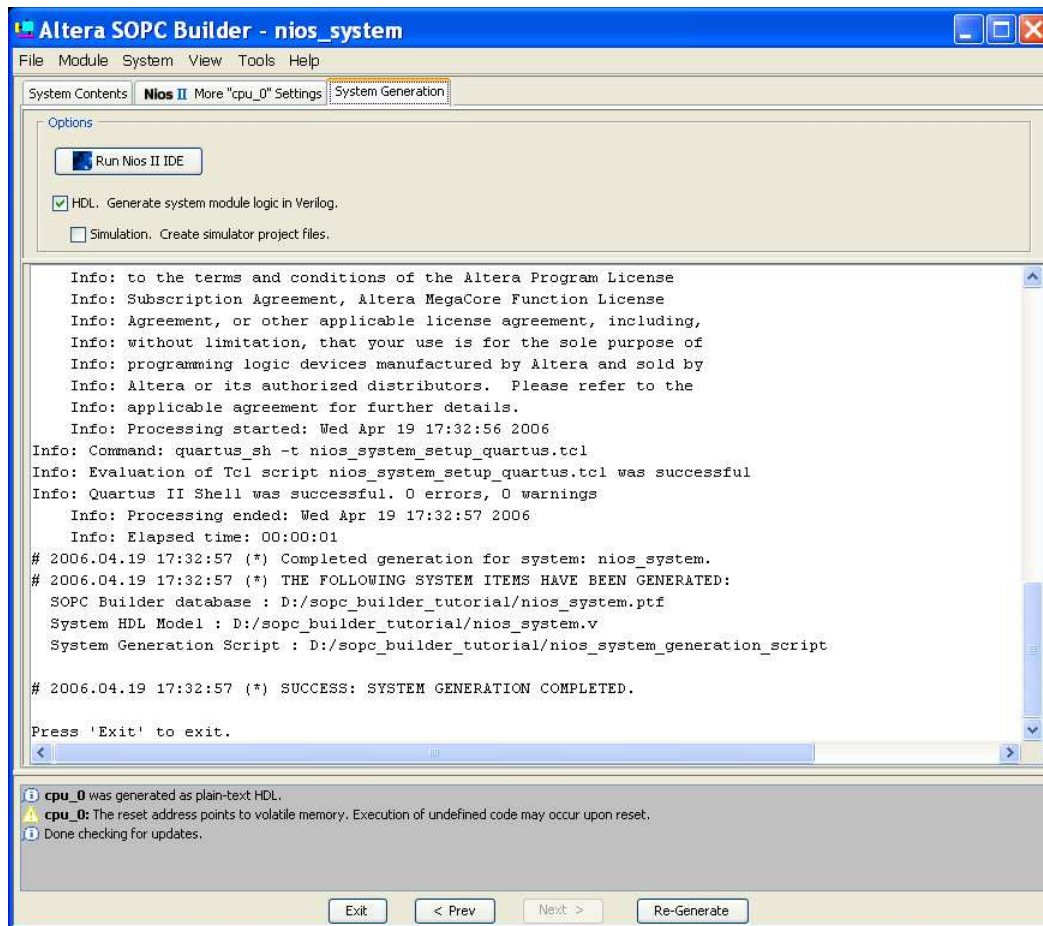

Figure 15. Generation of the system.
- Having specified all components needed to implement the desired system, it can now be generated. Select the System Generation tab, which leads to the window in Figure 15. Turn off Simulation - Create simulator project files, because in this tutorial we will not deal with the simulation of hardware. Click